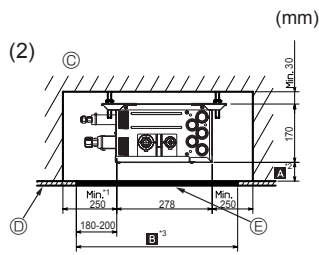
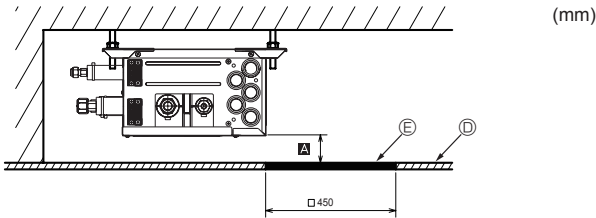
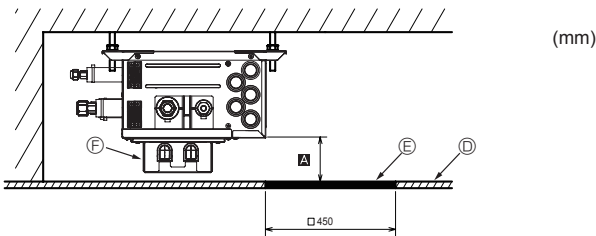

Fig. 4-7
Fig. 4-8
Fig. 4-9
- (2) Side View (Fig. 4-7, Fig. 4-8, Fig. 4-9)
To install the optional Reactor Box, set **A** to Min. 270 mm <recommendation> (Fig. 4-9).
In the case of "□ 450 mm", prepare a maintenance hole at a PCB side (as it is shown in Fig. 4-8, Fig. 4-9), and "Min. 300 mm" is needed as distance **A**. In the case of less than 300 mm (for example **A** is 100 mm), the exchange work of Branch box, linear expansion valve coils and sensors from a maintenance hole becomes difficult (Only exchange work of a PCB is possible).